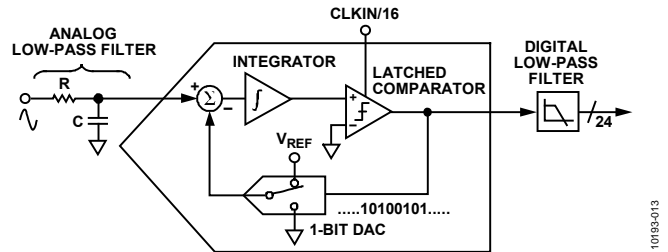
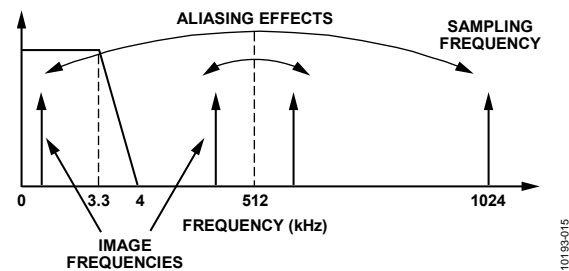

Figure 38. First-Order  $\Sigma$ - $\Delta$  ADC
Figure 40. Aliasing Effects
For simplicity, the block diagram in Figure 38 shows a first-order  $\Sigma$ - $\Delta$  ADC. The converter is composed of the  $\Sigma$ - $\Delta$  modulator and the digital low-pass filter.
Figure 38 also shows an analog low-pass filter (RC) on the input to the ADC. This filter is placed outside the ADE7880, and its role is to prevent aliasing. Aliasing is an artifact of all sampled systems as shown in Figure 40. Aliasing means that frequency components in the input signal to the ADC, which are higher than half the sampling rate of the ADC, appear in the sampled signal at a frequency below half the sampling rate. Frequency components above half the sampling frequency (also known as the Nyquist frequency, that is, 512 kHz) are imaged or folded back down below 512 kHz. This happens with all ADCs regardless of the architecture. In the example shown, only frequencies near the